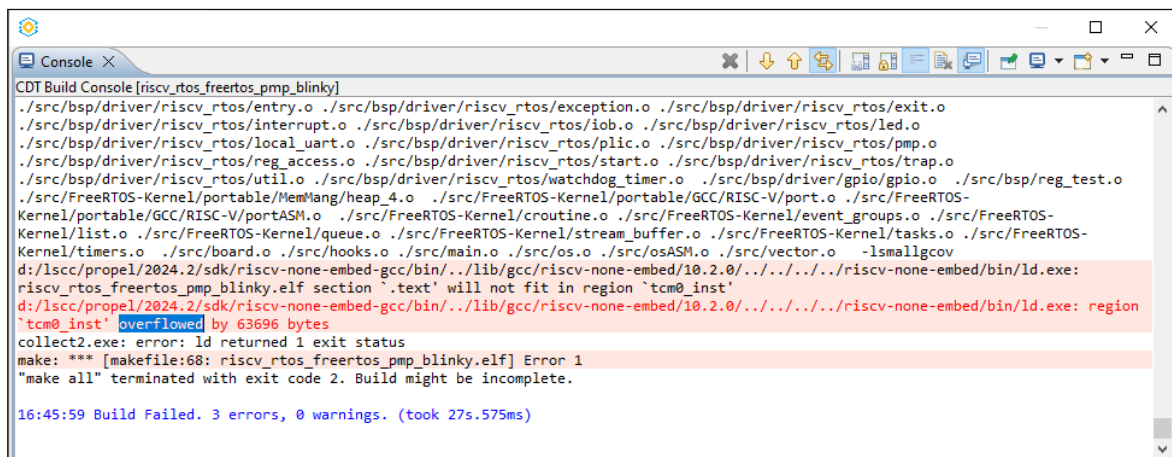
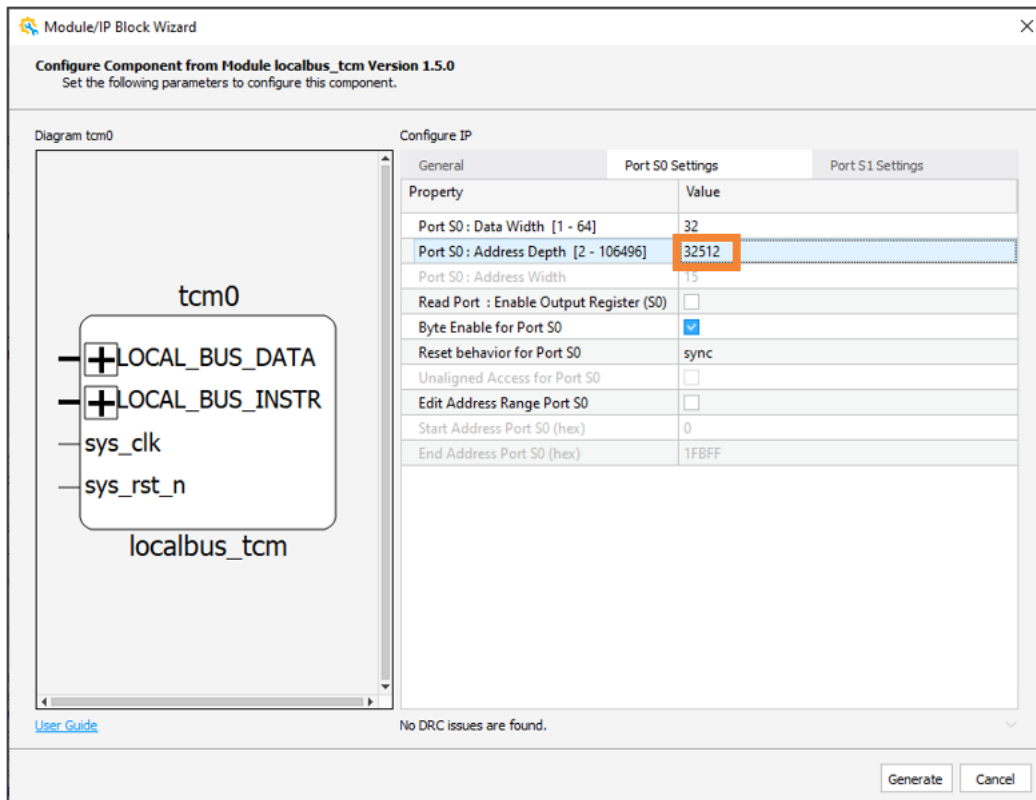
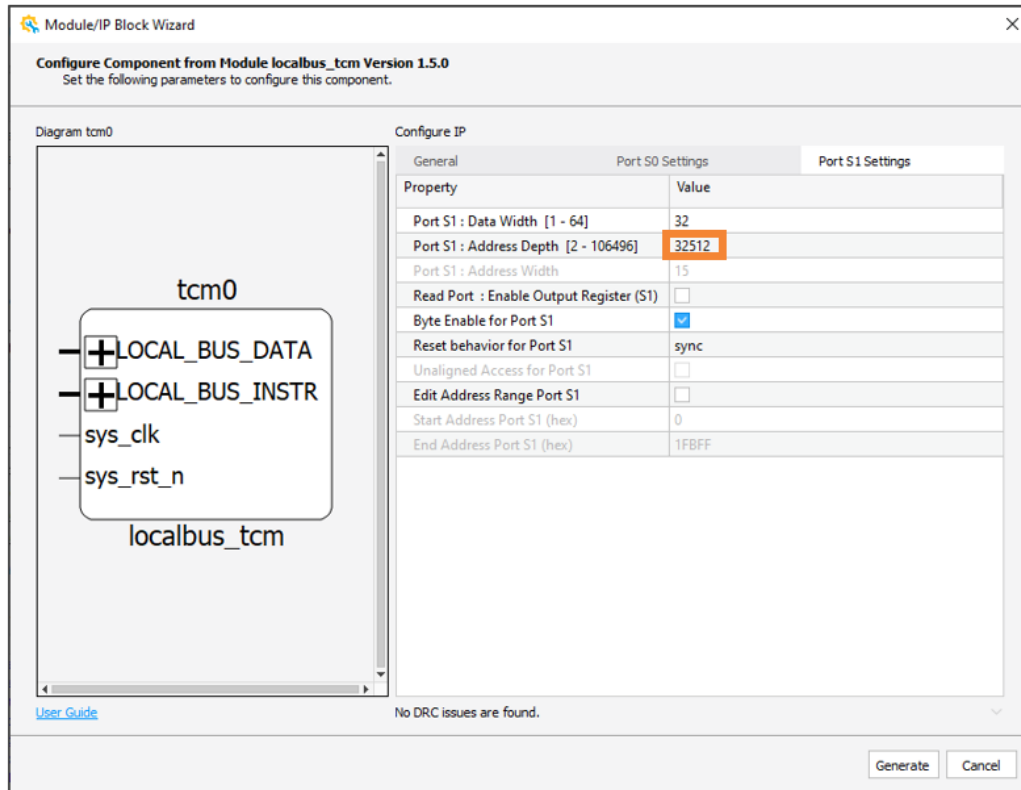

Figure A.6. Build Project Console 1
Figure A.11. Modifying tcm0_inst Port S0 Address Depth Settings
Figure A.12. Modifying tcm0_inst Port S1 Address Depth Settings
If you add too much code to your C project, it might cause the build error shown in Figure A.6.
The error shown in Figure A.6 means the additional space size needed for this project is 63696 bytes, which is 0xF8D0 in hexadecimal. Therefore, the total space size needed is 0x1F8D0 bytes.
3. Set the Port S0 and Port S1 address depth to an adequate value. The error in Figure A.6 indicates that 0x1F8D0 bytes are needed, and the value needs to be 1k aligned. Consequently, the minimum size needed is 0x1FC00 bytes, equivalent to 0x7F00 DWORDs or 32512 in decimal. Refer to Figure A.11 and Figure A.12 for the settings described in this step. Click **Generate**.